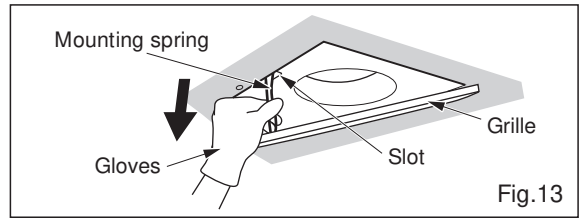
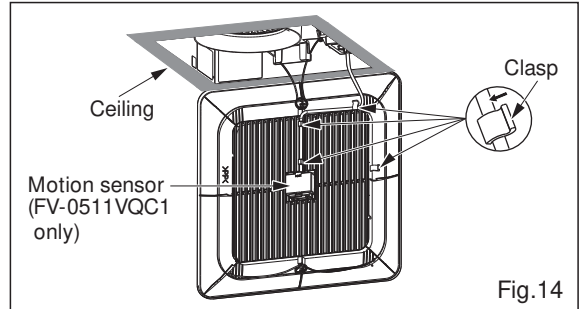

Fig.13
Fig.14
1. Remove grille by pulling down one mounting spring (Fig.13), then pull down the other. (Pull down the mounting spring that without lead wire passed side, and remove motion sensor as shown in Fig.14) (Squeeze mounting spring and pull down carefully)